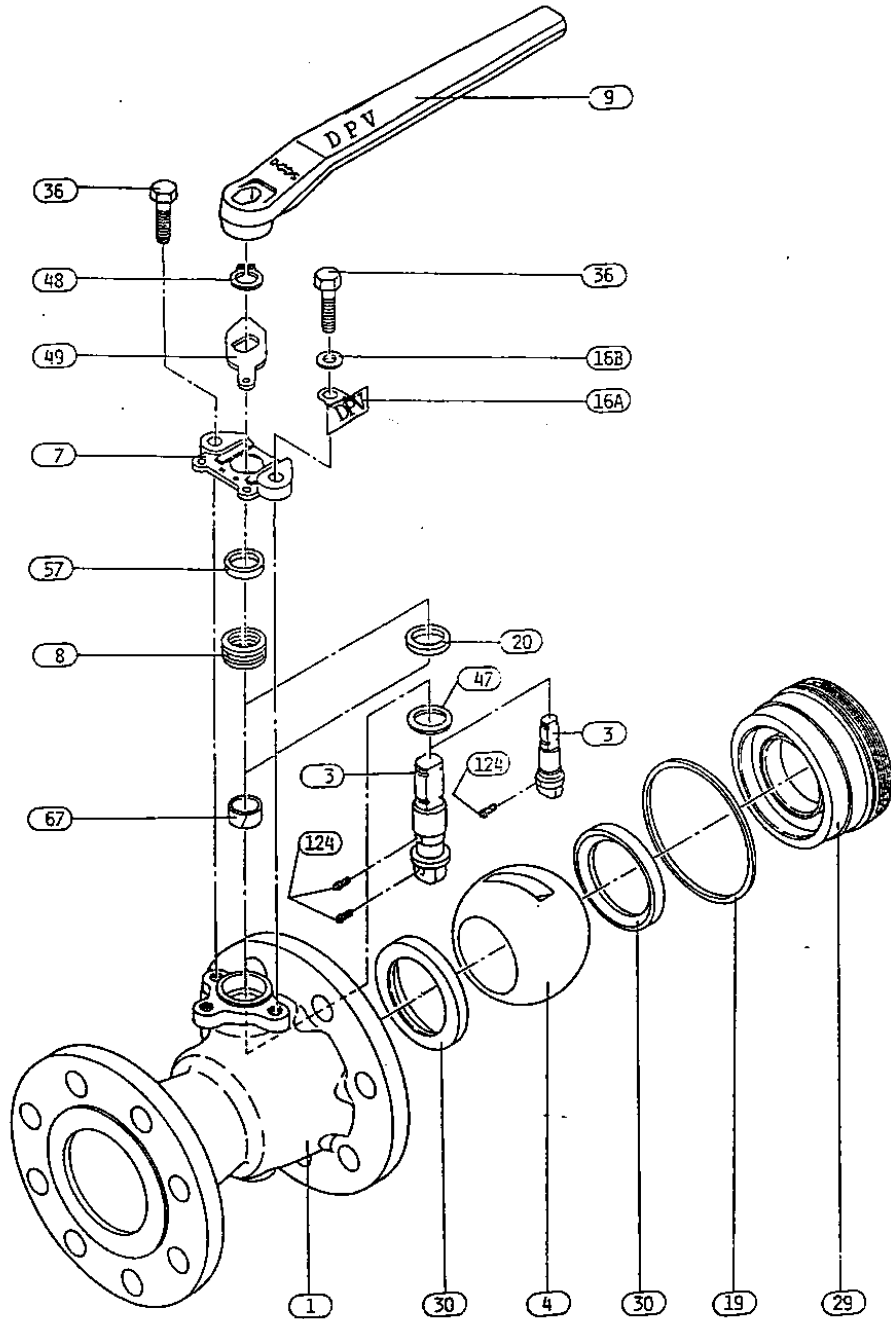

Fig. 2. Disassembly illustration of 6" to 10" valves
**Disassembly of valves; size 6” to 10” (Fig. 2)**
**Re-assembly of valves: size 6" to 10" (Fig.2)**